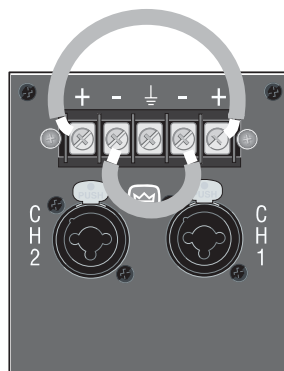

Figure 2.8 Jumper Positions to Parallel the Inputs
2. Feed your signal to the Channel-1 input (either barrier-block or Combo). Connect a jumper wire (Figure 2.8) between the barrier-block Channel-1 (+) screw terminal and the Channel-2 (+) screw terminal. Connect another jumper wire between the Channel-1 (-) screw terminal and the Channel-2 (-) screw terminal.